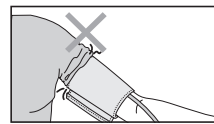

Fig.11
5. If the rolled-up sleeve squeezes the arm interfering with free blood flow the Device may give inaccurate figures not corresponding to your actual blood pressure (Fig. 11).